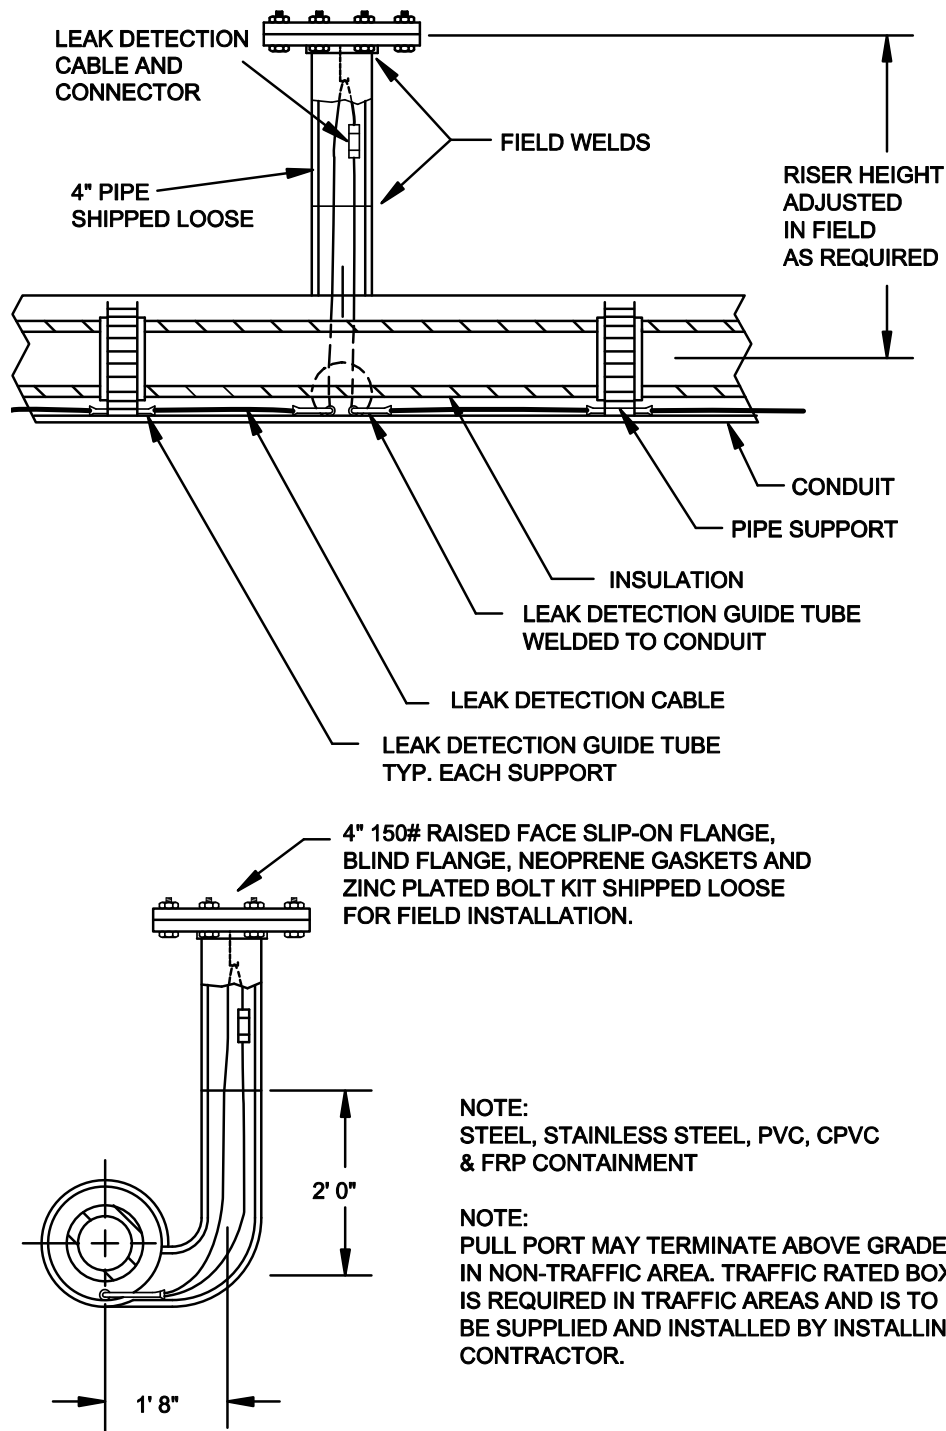

Figure 5-1
3. Pull point designs should be selected not only based on accessibility during installation, but potential future cable replacement. When future cable replacement is a consideration, it is recommended underground installations have watertight junction boxes or secondary contained access points installed at grade or in vaults (see figure 5-1).